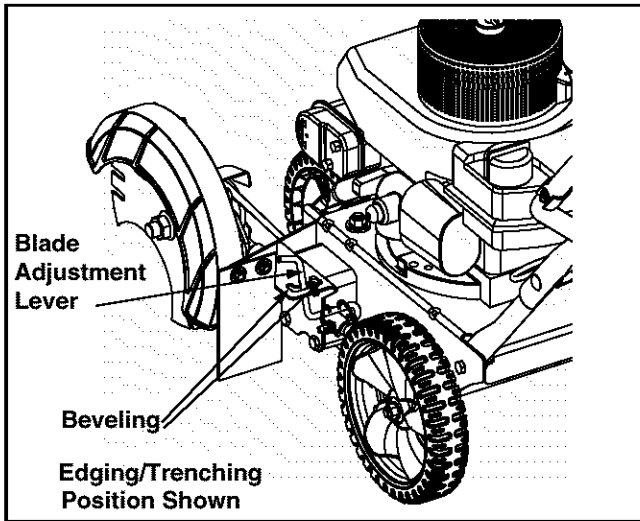
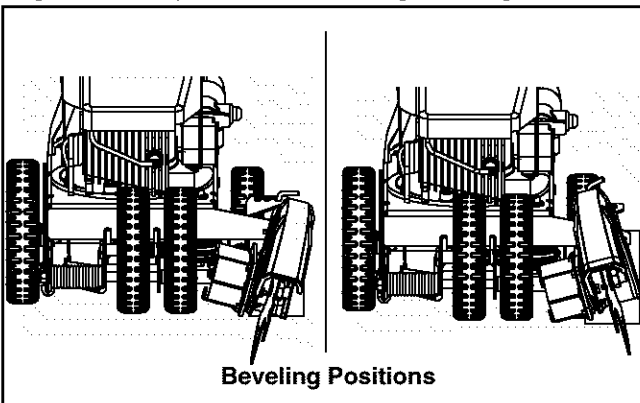
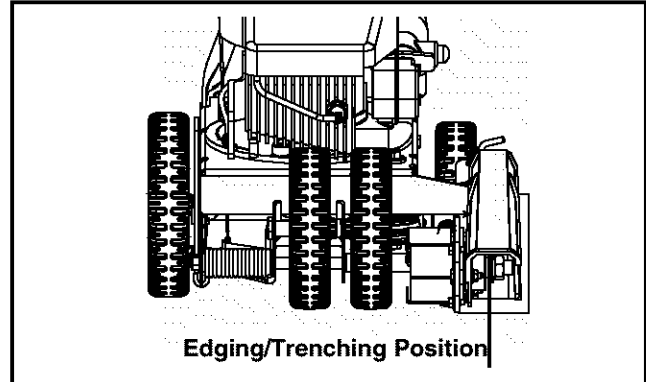

Figure 5
Figure 6
Figure 7
The angle of the edger blade can be adjusted by placing the blade adjustment lever in one of three positions for edging, beveling, or trenching. See Figure 5.
Set the blade adjustment lever (refer to Figure 5) in the first (left hand) or third (right hand) notch to place the edger blade in position for beveling. See Figure 6.
Set the blade adjustment lever (refer to Figure 5) in the center notch to place the edger blade in a 90° position for edging. See Figure 7.
- Set the blade adjustment lever (refer to Figure 5) in the center notch to place the edger blade in a 90° position (see Figure 7) and place the blade depth control lever in the lowest position.